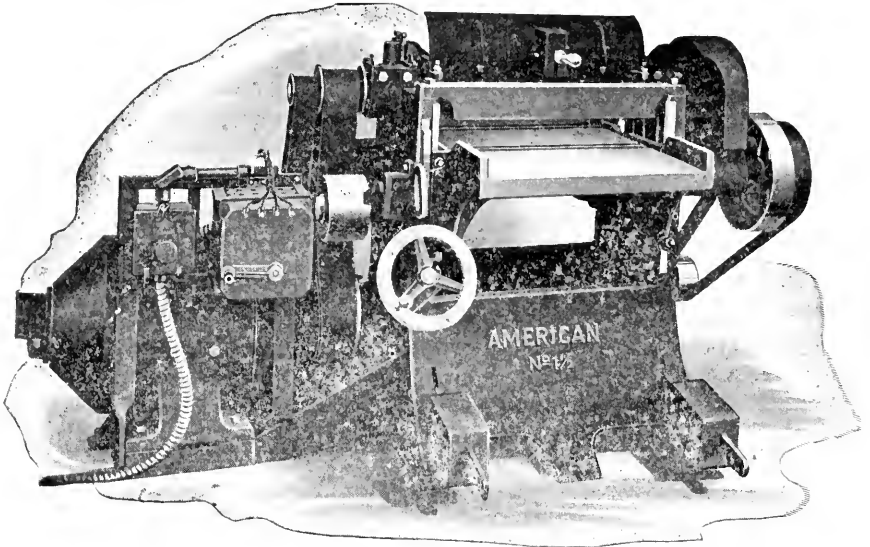

FIG 35—SINGLE SURFACER WITH INDIVIDUAL MOTOR DRIVE
The single surfacer, also called planer, shown in Fig. 35 is of a
**33. Operation and Adjustment--**The hand wheel, just below the gauge on the left side of the machine in Fig. 35 is used to raise and lower the table so as to adjust it for the wood which is to be planed. Find the thickest part of the piece which is to be planed and set it so as to take a cut of about one-sixteenth of an inch in thickness. It is sometimes necessary to raise the back end of the board slightly higher than the top of the table in order that the corrugated feed roll may grab it and draw it into the machine. Feed so that the cylinder will cut with the grain. It next passes under the chip-breaker pressure bar which is adjusted either by a spring or weight (weight in this case.) After passing the pressure bar it now meets the cylinder head and the chips follow the curve of the breaker and fly out over the machine. Just after the board passes under the cylinder head it encounters the back pressure bar which holds it firmly to the bottom feed rollers so that the stock is cut to a uniform thickness. After the back pressure bar the stock of course passes between the two feed rollers to the back of the machine and continues on through.